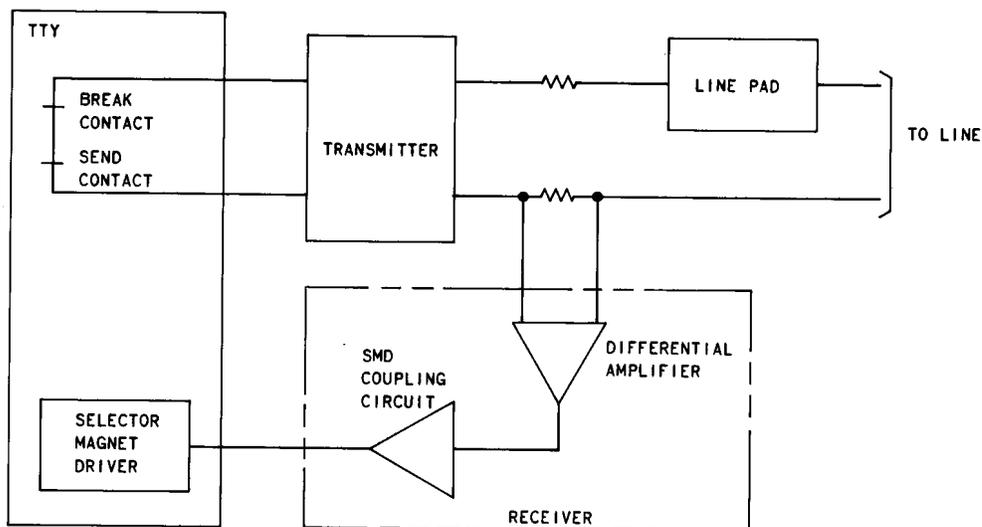

Fig. 7—Block Diagram of Data Set 109C-L1
3.02 Data Set 109C-L1 includes an EU1 circuit pack which functionally consists of a transmitter, a receiver, and a built-in line pad. See Fig. 7.
derived from a resistor in series with the metallic loop. See Fig. 7. Voltage across the resistor is proportional to the loop current signals. When the differential amplifier detects a marking current on the metallic loop, the SMD coupling circuit is driven into saturation. When the differential amplifier detects a spacing current on the loop, the SMD coupling circuit is cut off. These two states of the SMD coupling circuit cause the teletypewriter to receive a mark or a space, respectively.